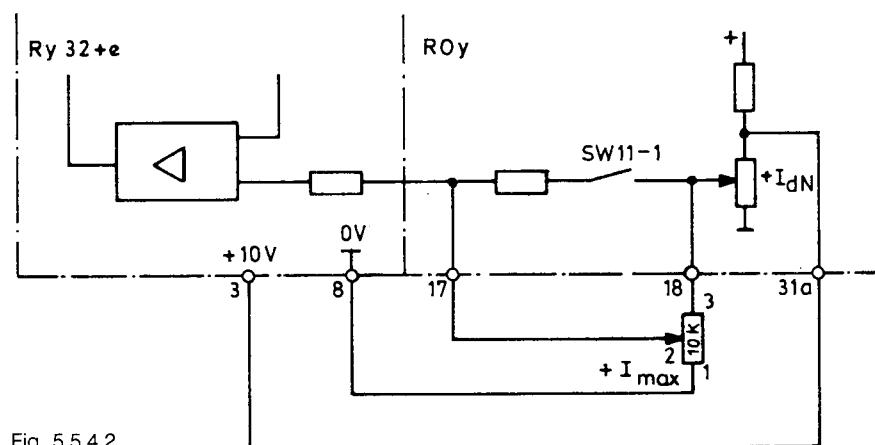

Fig. 5.5.4.2
- For connection see Fig. 5.5.4.2